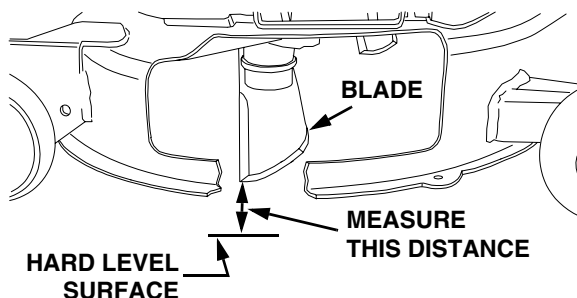

Figure 29
5. Referring to Figure 29, measure and record the distance from the hard, level surface to the outermost cutting edge of the right blade. Repeat this step for the left blade. If the two blade heights are not within 1/16 inch, note whether the right hand blade is lower or higher than the left blade, then proceed to steps 6, 7 and 8. If the two blade heights are within 1/16 inch, proceed to **FRONT TO BACK LEVELING ADJUSTMENT**.